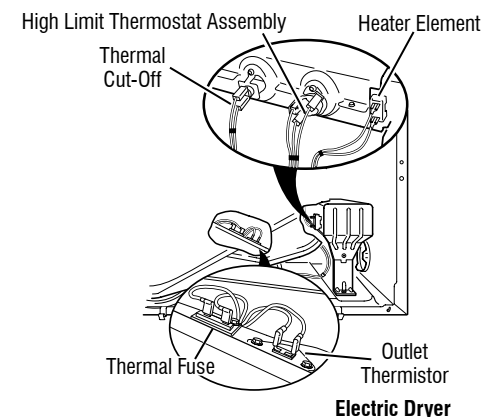

Figure 11 - Thermal components, electric dryer, viewed from front.
**NOTE:** On the electric dryer, the inlet thermistor is part of the high thermostat assembly (see figure 11). On the gas dryer, the inlet thermistor is located at the drum inlet duct (see figure 23).